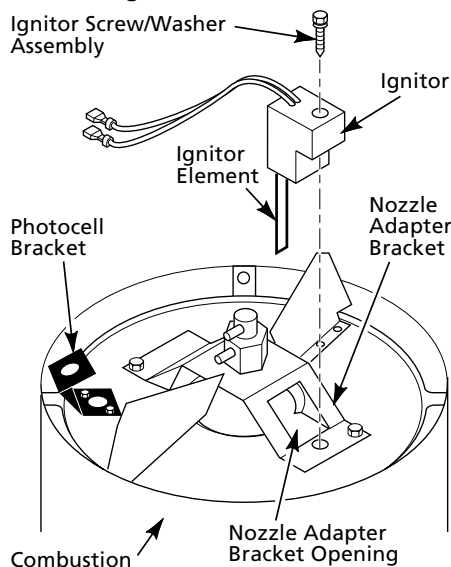

Figure 17 - Ignitor Replacement
6. Remove combustion chamber. Stand combustion chamber on end with nozzle adapter bracket on top (See Figure 17).
9. Carefully guide ignitor into opening in nozzle adapter bracket. Do not strike ignitor element. Attach ignitor to nozzle adapter bracket with screw using a 1/4" nut driver (See Figure 17). Torque 8 to 15 in. lbs. Do not over torque.